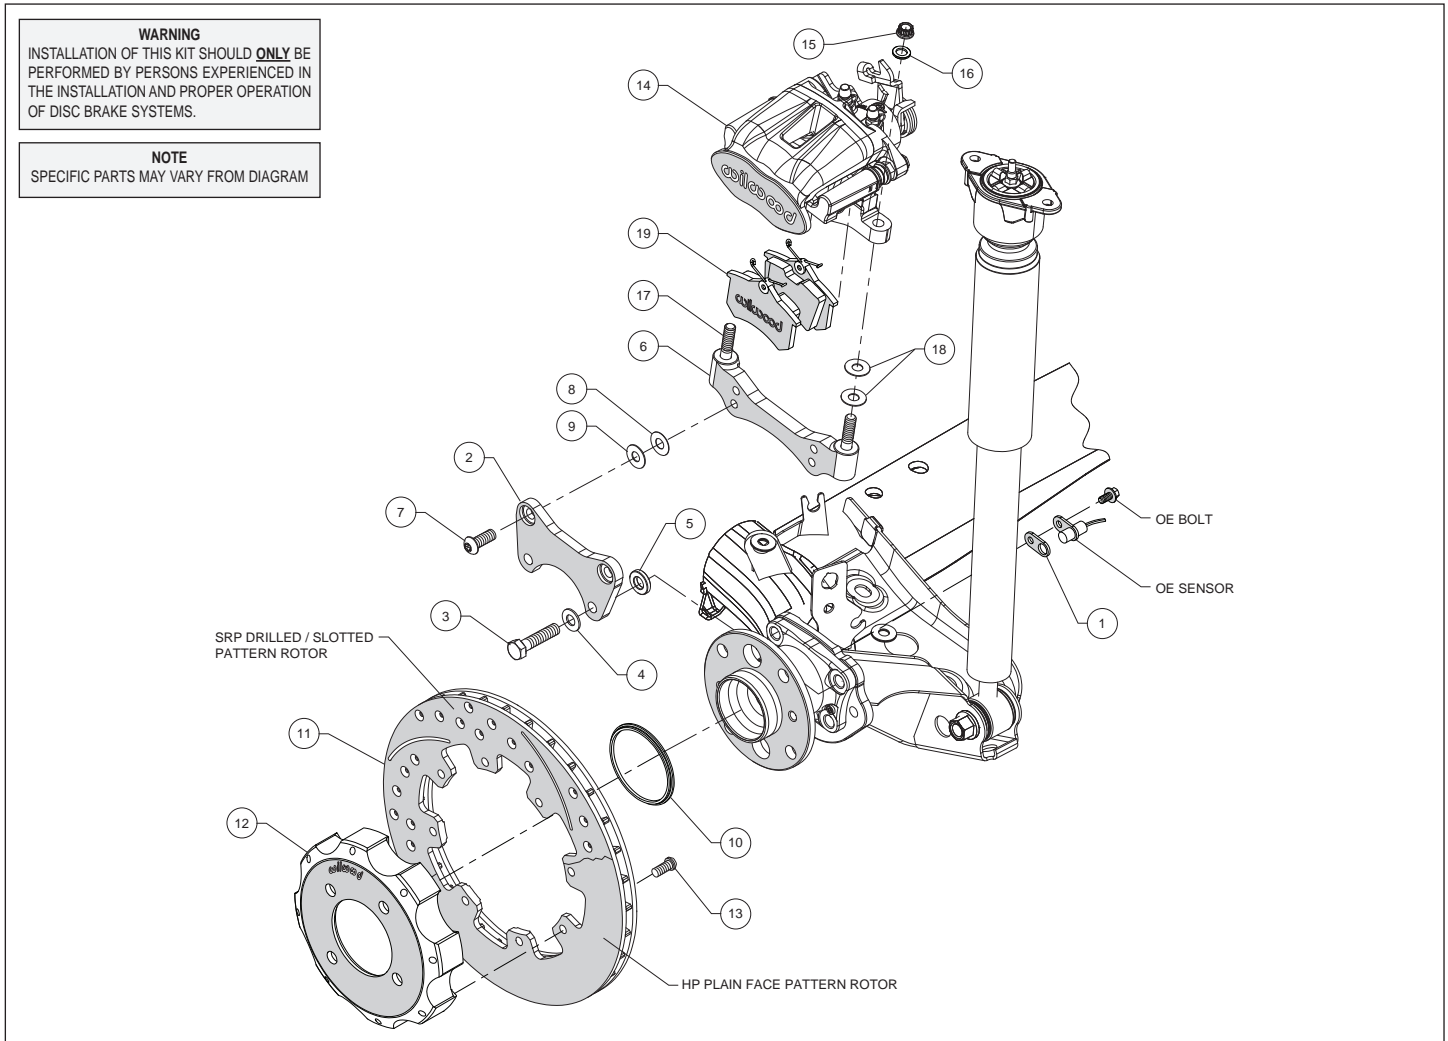

Figure 1. Typical Installation Configuration
- Remove the Original Equipment Manufacturer (OEM) bolt that secures the sensor from the backside of the upright. Place spacer (1) between sensor and upright as shown in Figure 1, and secure with OEM screw.
- The flat bracket (2) should initially be installed with clean, dry threads on the mounting bolts. Orient the bracket as shown in Figure 1 and Photo 1, and install using mounting bolt (3), washer (4), and spacer (5) placed between the bracket and upright. Temporarily tighten the mounting bolts. **NOTE:** The bracket must fit squarely against the mount bosses on the upright. Inspect for interference from casting irregularities, machining ridges, burrs, etc. After the bracket fitting has been confirmed, remove the mounting bolts one at a time and coat the threads with red *Loctite*® 271. Torque bolts to 45 ft-lbs.
- The caliper mount bracket (6) should initially be installed with clean, dry threads on the mounting bolts. Orient the bracket as shown in Figure 1 and Photo 2, and install using mounting bolt (7). Initially place one each .035" thick shim (8), and .016" thick shim (9) on each bolt between the flat bracket (2) and the caliper bracket, Figure 1. Later, after the caliper alignment has been checked, the mount bolts will be secured using red *Loctite*® 271.
- Orient the rotor (11) and the hat (12) as shown in Figure 1 and Photo 3. Attach rotor to hat using bolts (13). Using an alternating sequence, apply red *Loctite*® 271 to the threads, and torque to 25 ft-lb.
- Slide the rotor registration adapter (10) onto the axle register on the axle hub with the smaller O.D. facing outward, Photo 4. Slide the hat/rotor assembly onto the axle hub, Photo 5. **NOTE:** The hat must fit flush against the axle hub flange or excessive rotor run out may result. Install three lug nuts (finger tight) to keep the hat/rotor assembly in place while continuing with the installation.
- Slide the brake pads (19) up into the caliper (14) from the bottom with the friction material facing the rotor until the "V" spring clip snaps into place against the anvil, as shown in Figure 1 and Photo 6. They should install easily without interference.
- Lubricate the caliper mounting studs (17) with lightweight oil. Initially place two .035" thick shims (18) on each stud as shown in Figure 1. Mount the caliper (14) onto the caliper mounting bracket (6) using washers (16) and lock nuts (15), as shown in Figure 1 and Photo 7. Temporarily tighten the mounting nuts and view the rotor (11) from the end of the caliper. The rotor should be centered in the caliper, Photo 8. If not, adjust by adding or subtracting .016" shims (9) and/or .035" shims (8) between the caliper mounting bracket and the flat bracket (2) to center the caliper on the rotor. Always use the same amount of shims on each of the two mounting bolts. Once the caliper alignment and pad centering are correct, remove the bracket-to-bracket bolts one at a time, apply red *Loctite*® 271 to bolt threads, and torque to 45 ft-lb.